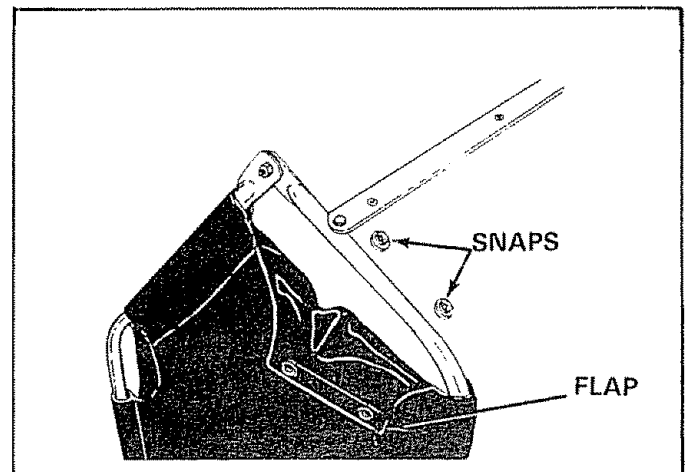

FIGURE 17
- Secure the bag corners over lower hopper tube by snapping the flap to bag bottom on each side. See figure 17.